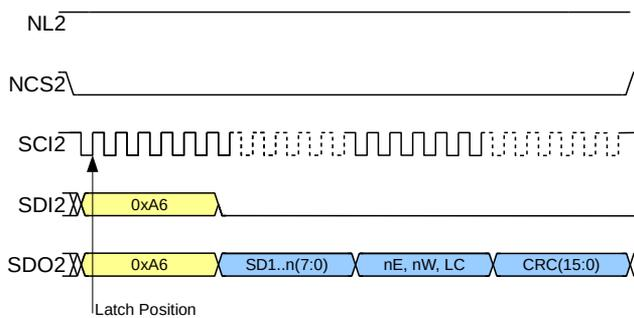

Figure 31: Sensor data read with latching by SCI2 (IF_MODE = 0x0, 0x4)
1. IF_MODE = 0x0, 0x4: sample point defined by NCS = 0 and first rising edge SLC2 (see Figure 31)